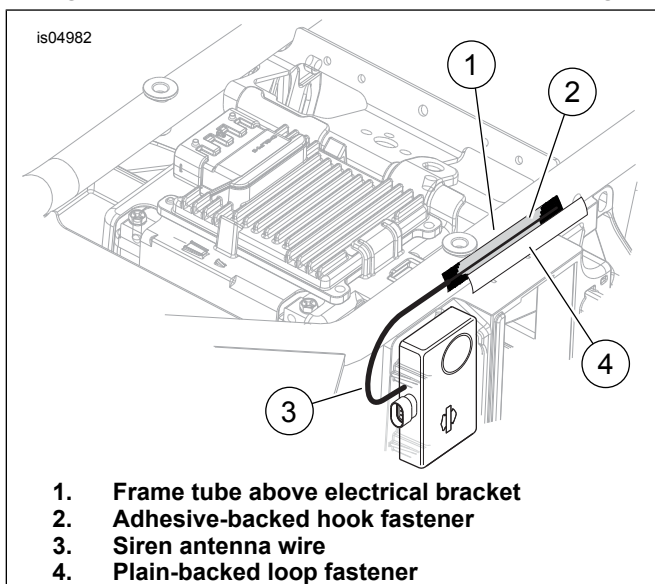

Figure 16. Siren Antenna Installation (2008-2013 FL Touring Models)
5. See Figure 16. Clean the outboard surface of the frame tube (1) above the electrical caddy. See Adhesive Strips.